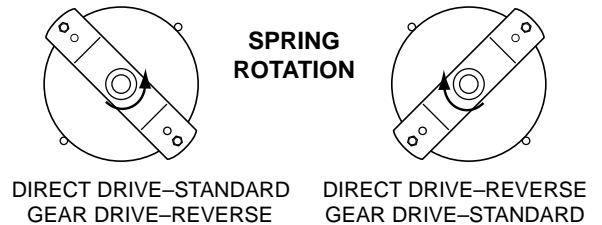
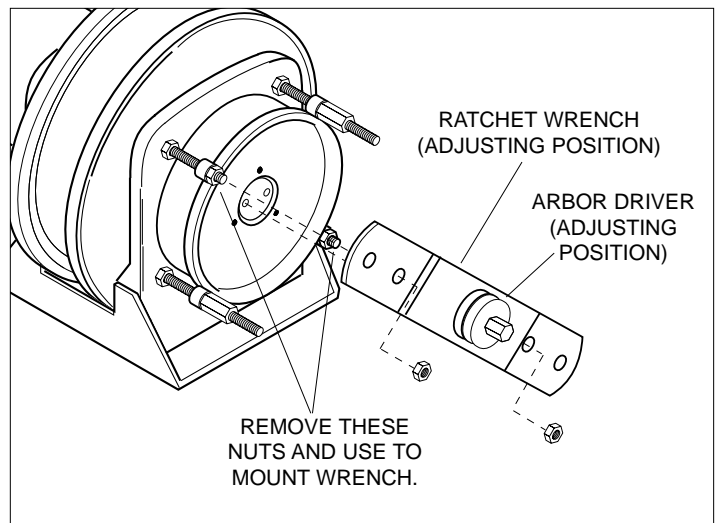

Figure 1
Figure 3
3. Remove arbor driver from wrench. Rotate wrench 90°. Remove hex nuts from two diagonal spring mounting studs and mount wrench using hex nuts (Fig 3). Rotation direction arrow on wrench indicates direction hub is to be turned to tension spring and must match direction shown in Figure 1, above.